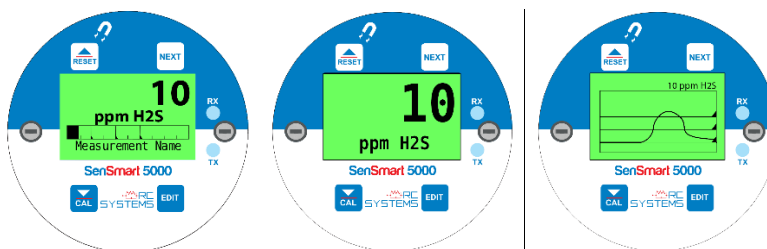

Figure 9 Universal Gas Detector Data Display Screens
3. Apply a clean Zero Gas (Figure 9), using the Calibration Cup or be sure there is no background target gas in the monitored area. After the reading is stable, swipe the *Edit* key to set the Zero Calibration. To skip the Zero calibration, and go to the Span calibration, swipe the *Next* key. Once a message that the Zero calibration was completed successfully has been displayed, proceed to the next step.
4. Apply the correct, as indicated, span gas (Figure 9). After the reading is stable, swipe the *Edit* key to set the Span Calibration. To skip the Span Calibration, swipe the *Next* key. When a message that the Span Calibration was completed successfully is displayed, the gas detector will exit back to the Data Display Screen.